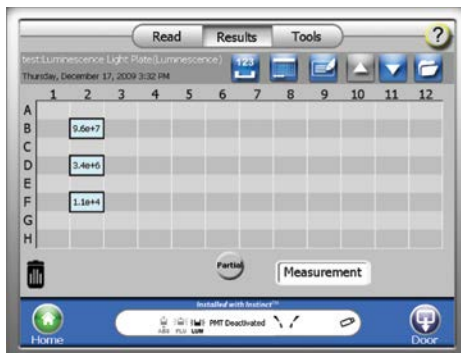

Figure 34. Viewing luminescence light plate results.
14. Press the “Statistics” button to see the R^2 for the standard curve. The R^2 value generated should be ≥ 0.9800 (Figure 34). If the results are < 0.9800 contact Promega Technical Services for assistance.